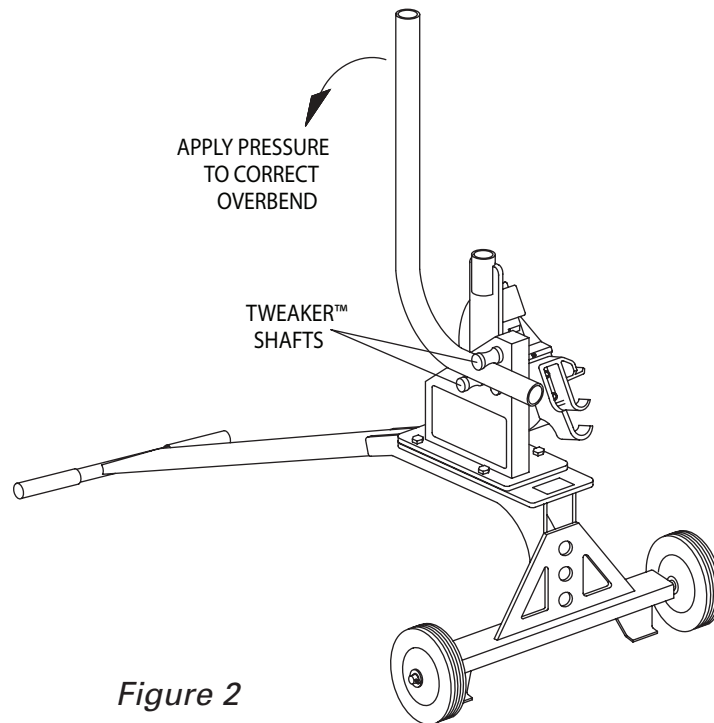

Figure 2
1. Insert the conduit between the TWEAKER™ shafts shown on Figure 2.